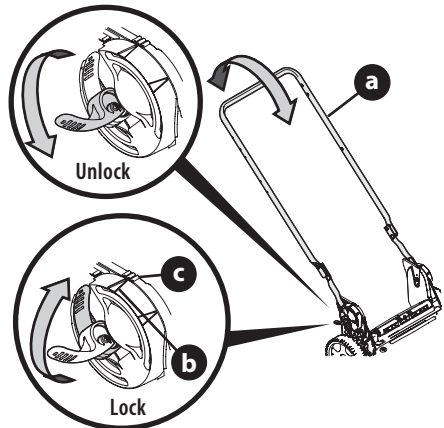

Figure 18
1. Unlock the two handle release levers (Figure 18, inset).
3. Lock the two handle release levers (Figure 18, inset).